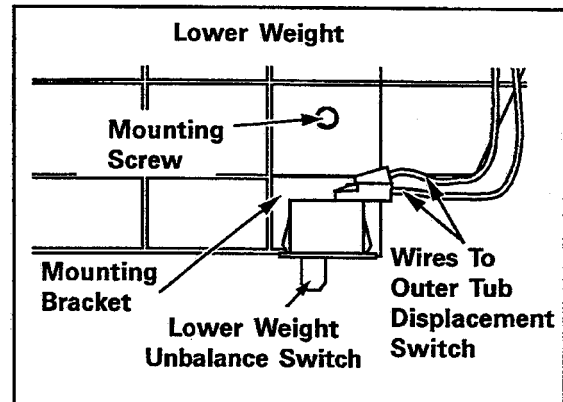

Figure 2-62
2. Place ohmmeter leads across the two terminals of the switch. Depress the button on the switch. If the contacts open, the switch is good. If not, replace the switch (See *Figure 2-62*).